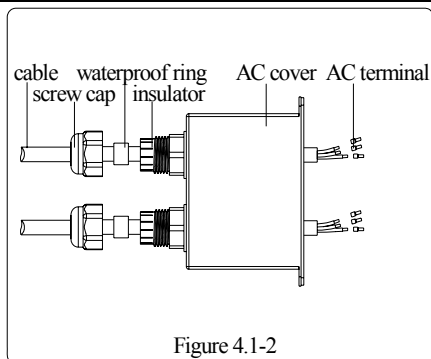

Figure 4.1-2
6. Put the cable through the components in this order: screw cap, waterproof ring, insulator, AC cover and AC terminal. Refer to Figure 4.1-2.